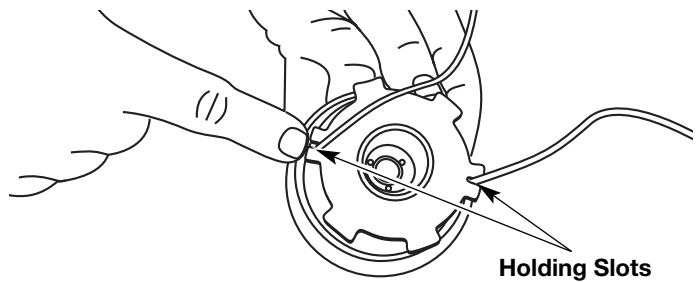

Fig. 22
12. Insert the ends of the line into the two holding slots (Fig. 22).